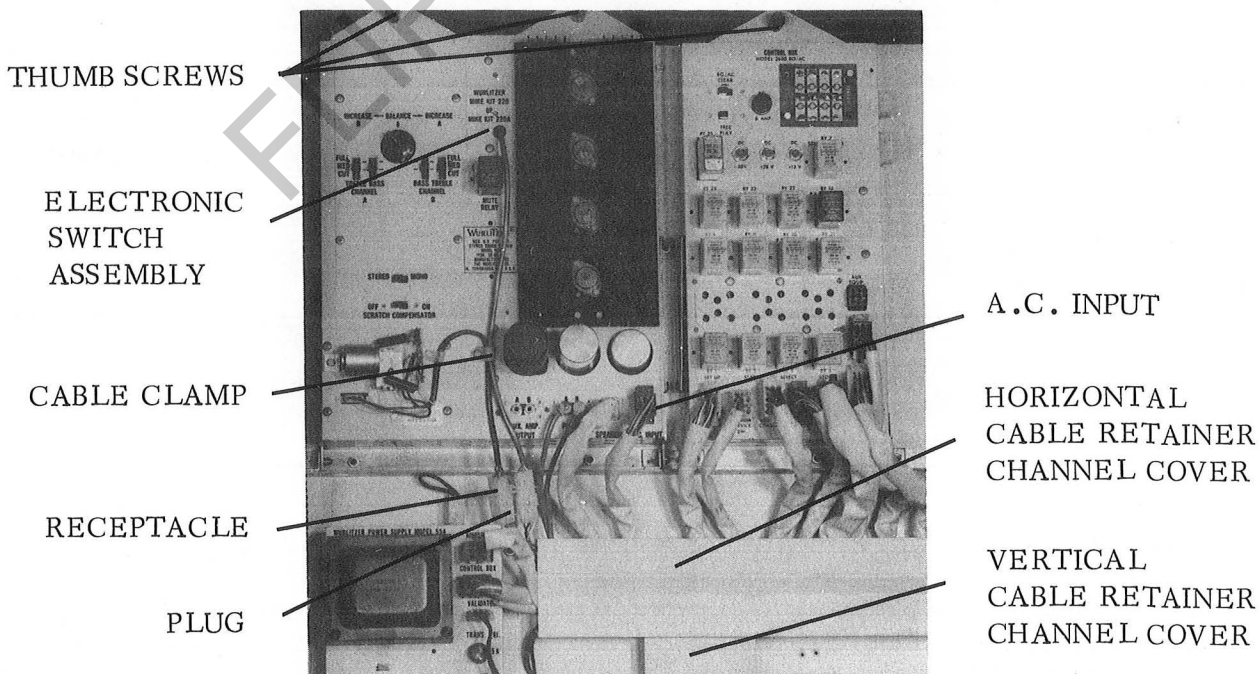

Figure 1.
3. Disconnect red receptacle from A.C. INPUT plug located on Amplifier. Refer to Figure 1 for receptacle and plug location.
5. Pass wires of ELECTRONIC SWITCH ASSEMBLY, Part No. 137010, shown in Figure 1, through opening in chassis pan in Amplifier.
6. Position ELECTRONIC SWITCH ASSEMBLY as shown in Figure 1. Secure ELECTRONIC SWITCH ASSEMBLY to Amplifier using two screws removed in Step 4.
7. Loosen two THUMB SCREWS shown in Figure 1, Swing Amplifier to down position.
11. Install CABLE CLAMP, Part No. 73804-4, on cable of ELECTRONIC SWITCH ASSEMBLY and secure to Amplifier with Screw, Part No. 74443-8, as shown in Figure 1. Tighten Screw securely.
13. Remove and retain VERTICAL CABLE RETAINER CHANNEL COVER shown in Figure 1.
14. Loosen left hand end of HORIZONTAL CABLE RETAINER CHANNEL COVER shown in Figure 1.
16. Secure left hand end of HORIZONTAL CABLE RETAINER CHANNEL COVER, then reinstall VERTICAL CABLE RETAINER CHANNEL COVER as shown in Figure 1.
29. Connect red receptacle, removed in Step 3, to A.C. INPUT plug as shown in Figure 1.